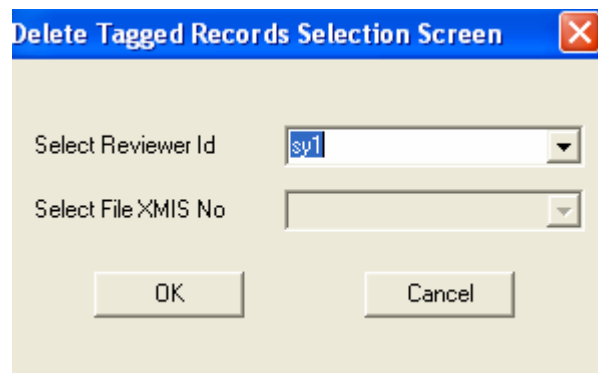

Figure 120: Record Selection Screen / by Reviewer
2. Second choice is to select a reviewer from the drop down list, this will gray out the Select File XMIS No field and will select all the records tagged by that particular reviewer, again records can be deleted at once or one at a time. An example of this step is shown in Figure 120: Record Selection Screen / by Reviewer.